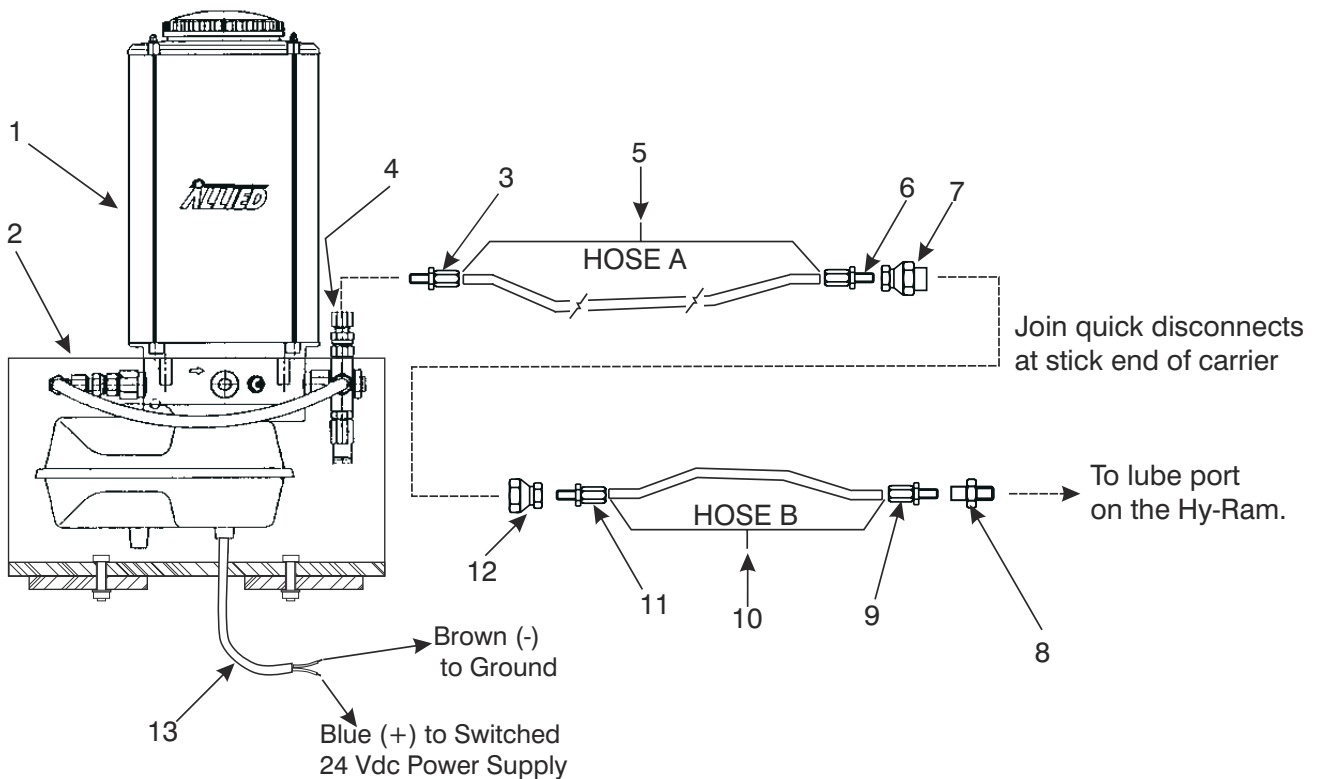
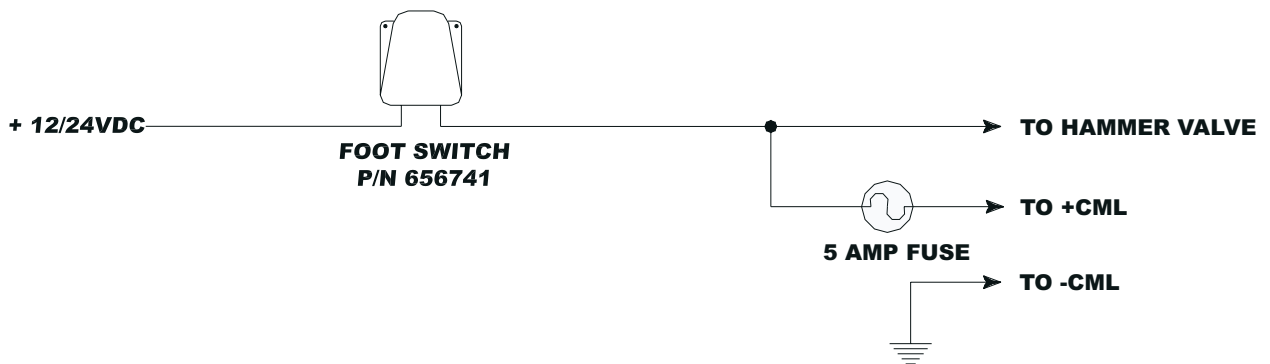

Figure 5-1. AutoLube CML
Figure 5-2. CML Schematic - Standard - No Optional Equipment
(Refer to Figure 5-1.)
(Refer to Figure 5-2.)
1. Route electrical cable (13, Figure 5-1) to hammer foot switch. A 5 amp in-line fuse must be installed between the AutoLube CML and the foot switch as shown in Figures 5-2 and 5-3.